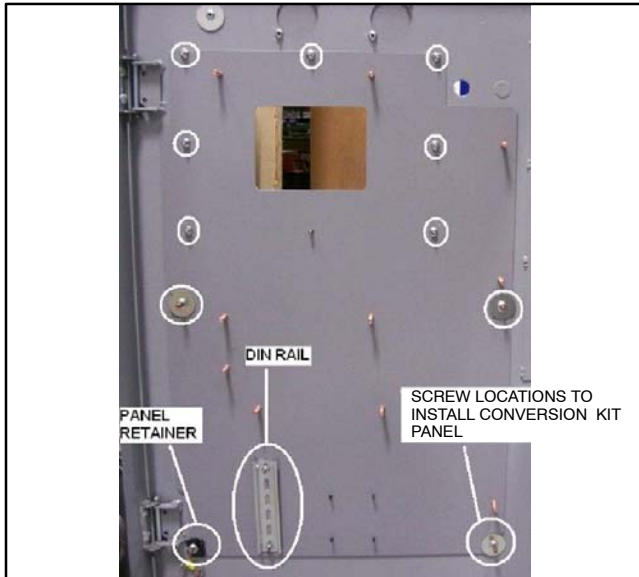

Figure 23 Mounting Plate Installation
14. Install the conversion kit mounting plate (GM99317). Use seven lock washers (X-22-7) and seven nuts (X-6210-4) to install the mounting plate as shown in Figure 22 and Figure 23. Install three flat washers (X-25-122) with three nuts (X-6210-2) as shown.